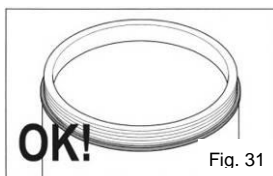

Fig. 31
- Fig. 31 shows correctly installed seal which uniformly adheres to the whole edge of the container.